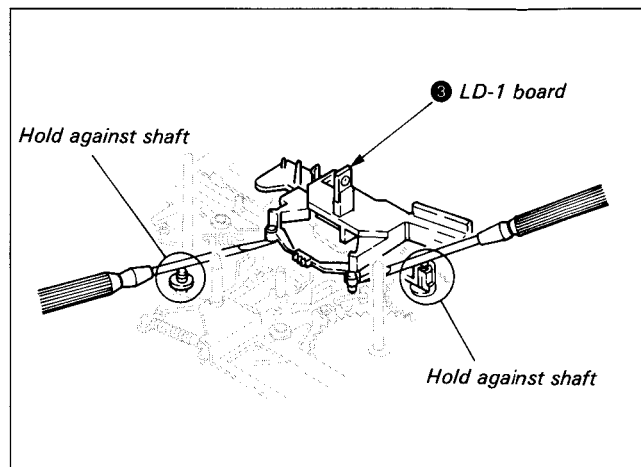

Fig. 7-37.
7-3-14. M-SW Assembly (See Fig. 7-37 ~ 39)
- 2) Remove stopper washer ① and the drive gear (B) assembly ②.
- 3) Remove the LD-1 board ③. (See Fig. 7-37.)
- 5) Remove tension spring ④ and B release arm ⑤.
- 7) Remove stopper washer ⑥ and the mode output gear ⑦.
- 8) Remove screw ⑧ and the push switch ⑨.
- 9) Remove connector ⑩.
- 10) Remove the three screws ⑪, the control motor cover ⑫ and the M-SW assembly ⑬.
- 11) Remove solder ⑭ and remove the DC motor ⑮.
- 5) Perform 7-3-14., 1. Removal, Steps 1)~5). (See Fig. 7-37, 7-38.)